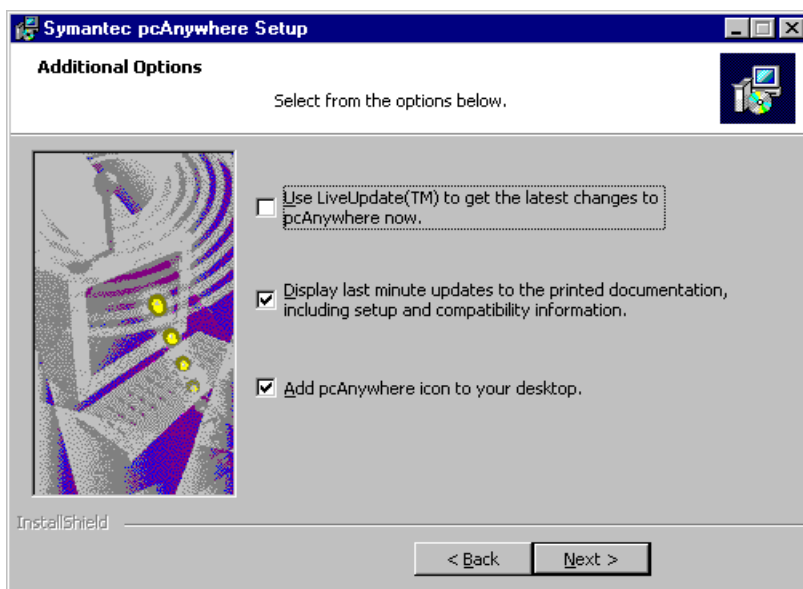

Fig. 21
- Window "Additional Options" (Fig. 21) is displayed.